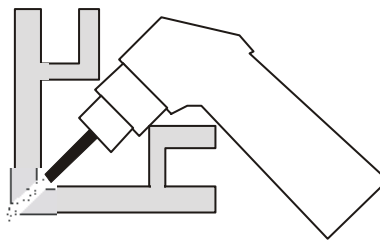

Fig. 4
- In case of cutting in the corner or around the corner (see Figure 4), use the long electrode and cutting tip (pos. **17** and **20**). The cutting power while using the Long cutting tip is decreased.